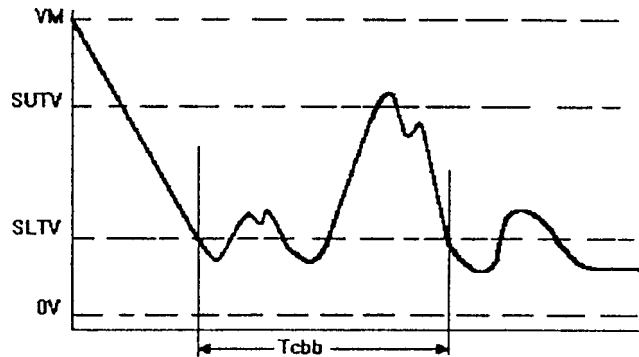

FIG. 1 Contact Bounce on Switch Break
3.1.2 *contact bounce time (break)*, T_{CBB} —the time period measured from the first instant V_M is equal to the SLTV until the first instant it again falls below the SLTV after the last instant it rises above the SUTV. If V_M does not rise above SUTV during the time interval, $T_{CBB} = 0$, (see Fig. 1).